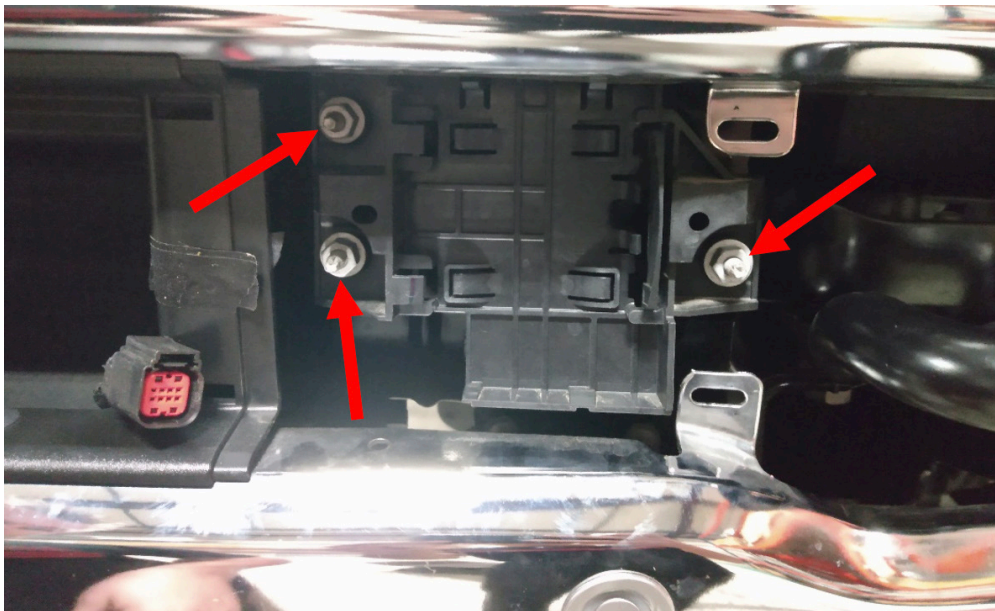

Figure 5
5. Using an E6 torx socket remove the three (3) studs that attach the ACC bracket to the vehicle. Figure 5